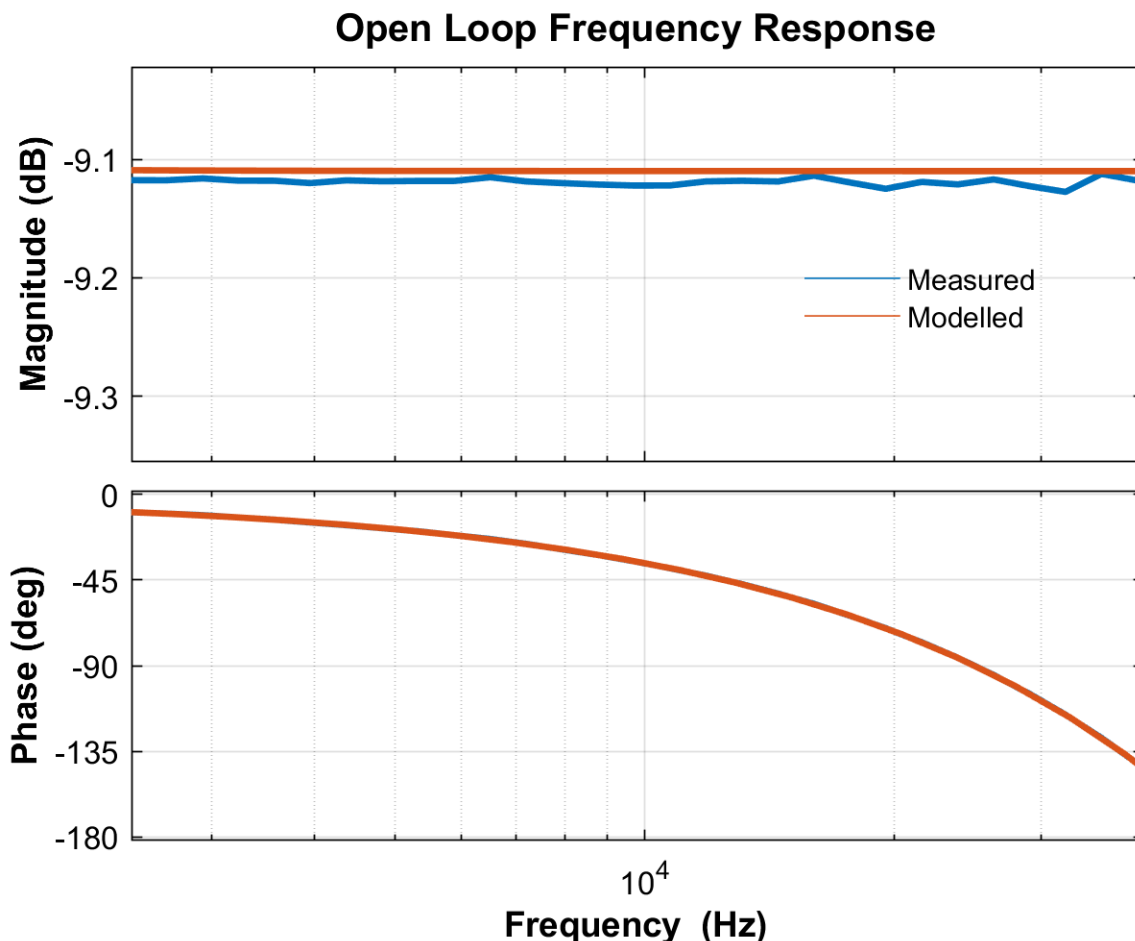

Figure 22. Zoomed in Open Loop Frequency Response for STB Example 1, Measured vs Modeled Comparison
5. The small errors in the measured and modeled frequency responses are not clear from the above plots. Hence, a zoomed view of the open loop plot for the STB example 1 is shown in Figure 22.